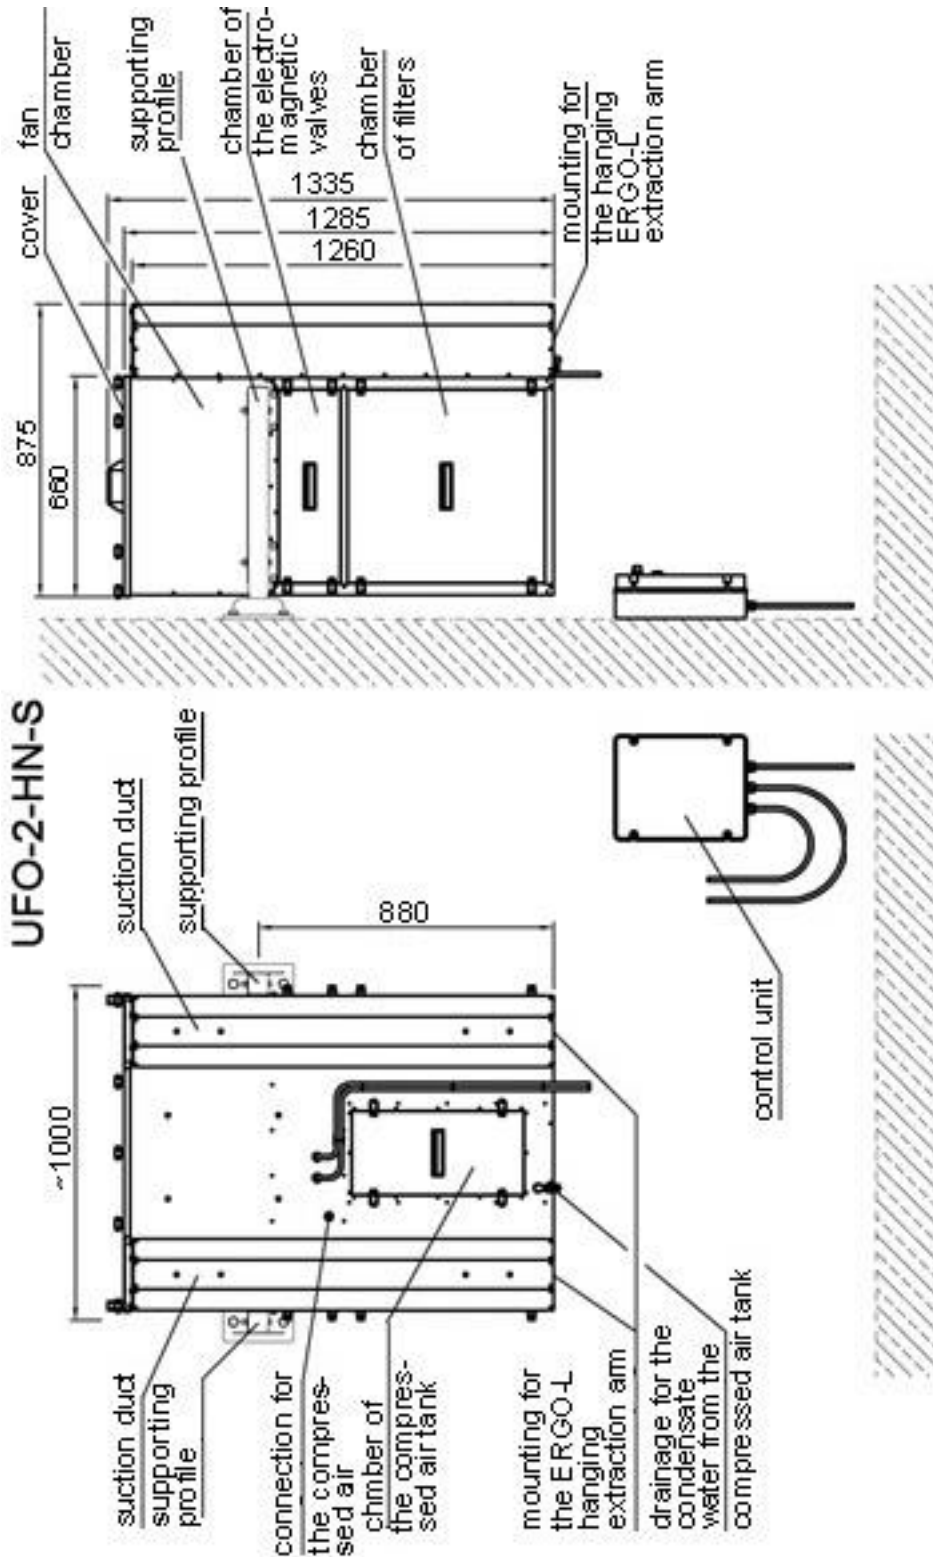

Fig. No.1b
- is equipped with supporting bracket beams (see **Fig. No.1b**)
- suction ducts (see **Fig. No.1b**) is plugged at the top, whereas the ERGO extraction arm must be fastened at the bottom of the suction ducts.